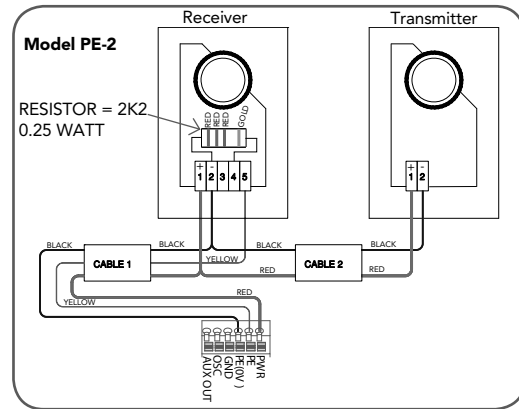

fig 46
- Connect the wires from the PE Beams wiring harness to the terminal block (**Fig. 46**). The wiring diagram is for Model PE-2 (Order Code 90214).
WARNING: Install the PE Beams as per diagram in (**Fig. 46**). **Tampering with** PE Beams could result in serious personal injury and/or property damage and will void the warranty.